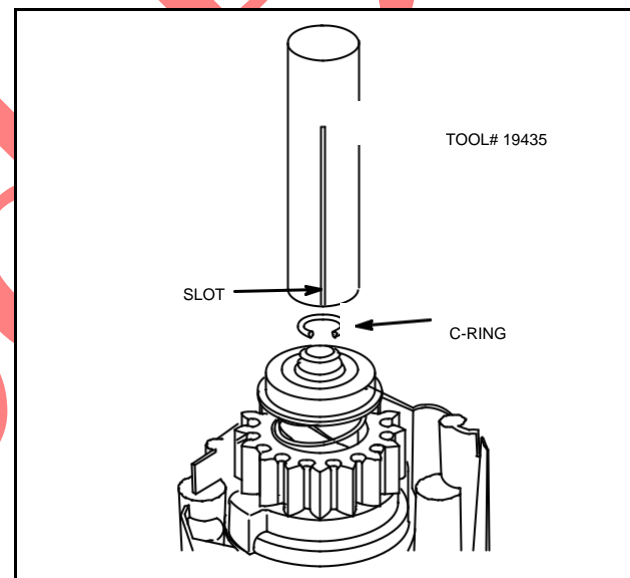

Fig. 20 – Installing C-ring
4. Place C-ring over chamfered end of shaft. Align one of the slots of Tool #19345 with open end of C-ring, Fig. 20.